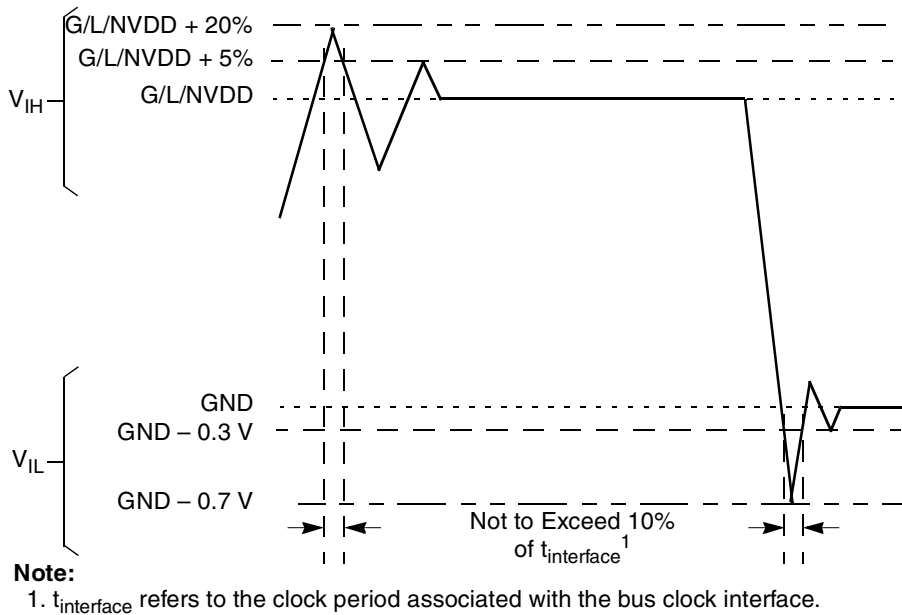

Figure 2. Overshoot/Undershoot Voltage for GVDD/NVDD/LVDD
- (M,N,L)VIN and MVREF may overshoot/undershoot to a voltage and for a maximum duration as shown in Figure 2.
Figure 2 shows the overshoot and undershoot voltages at the interfaces of the MPC8314E.